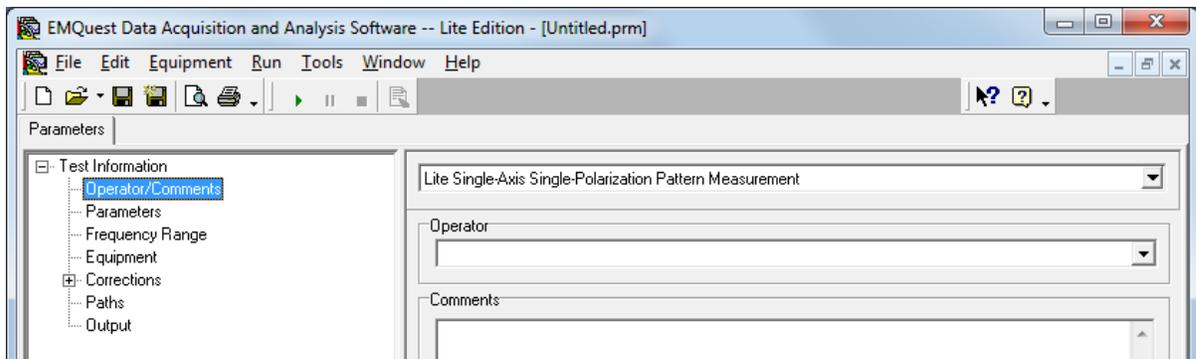

Figure 2. Operator/Comments tab (STEP 4).
4. Click on "**Operator/Comments**" and write your name in the **Operator** box. You may also use the **Comments** box to add additional notes (see Figure 2 below). It is recommended that you include the date and time of your measurement for future reference (you will need to go back to this page to add the end time once your measurement is complete).